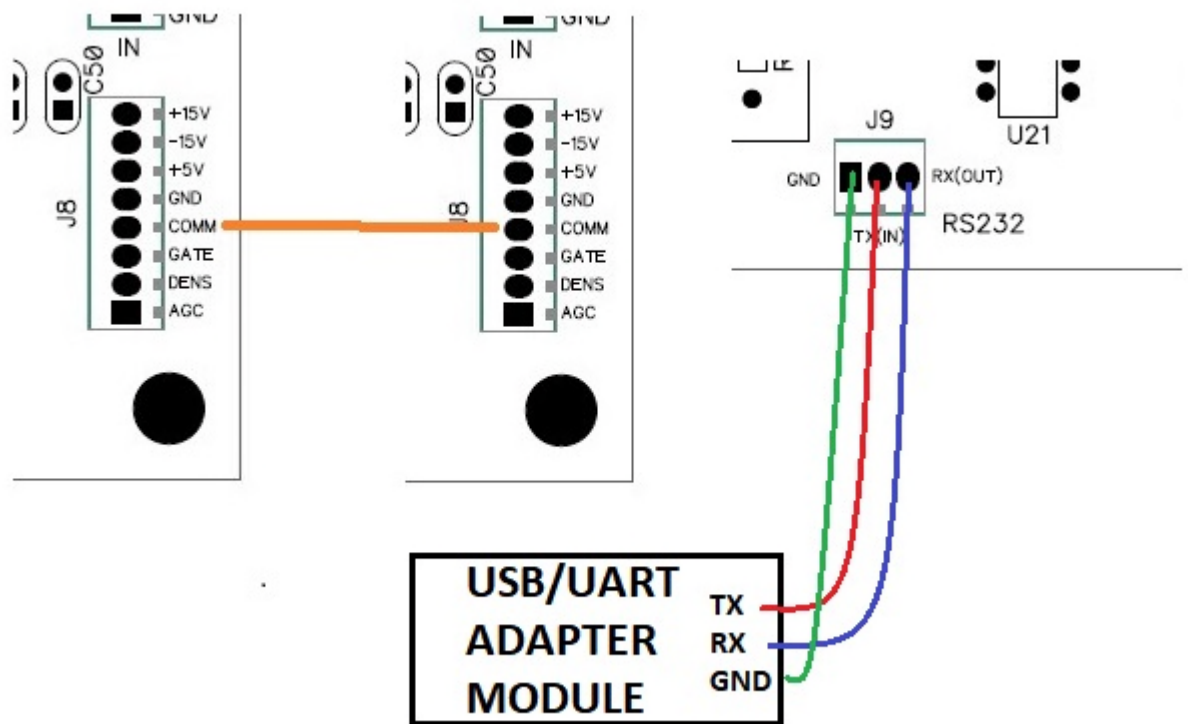

Figure 4
4. If using two BP1 boards in a 2 channel system, it is only necessary to install one PIC chip in U21 (labeled "X"). For this reason it is necessary to install a wire between boards using the "COMM" terminal to link the two together. If you want individual control two U21 chips are required, with no linking, however three additional pots are needed for Density, Gate and AGC. If stacking these boards the board containing U21 should be on top to make upgrades easier and for connection of the serial port adapter. Serial communication is optional. Typically a USB/UART adapter is used but any method of converting RS232 to 5V levels is required. Do not connect a legacy RS232 port directly as the voltage levels will destroy the PIC. The adapter can be installed in the box or wires can be routed to a rear panel connection for external use. See Figure 4.